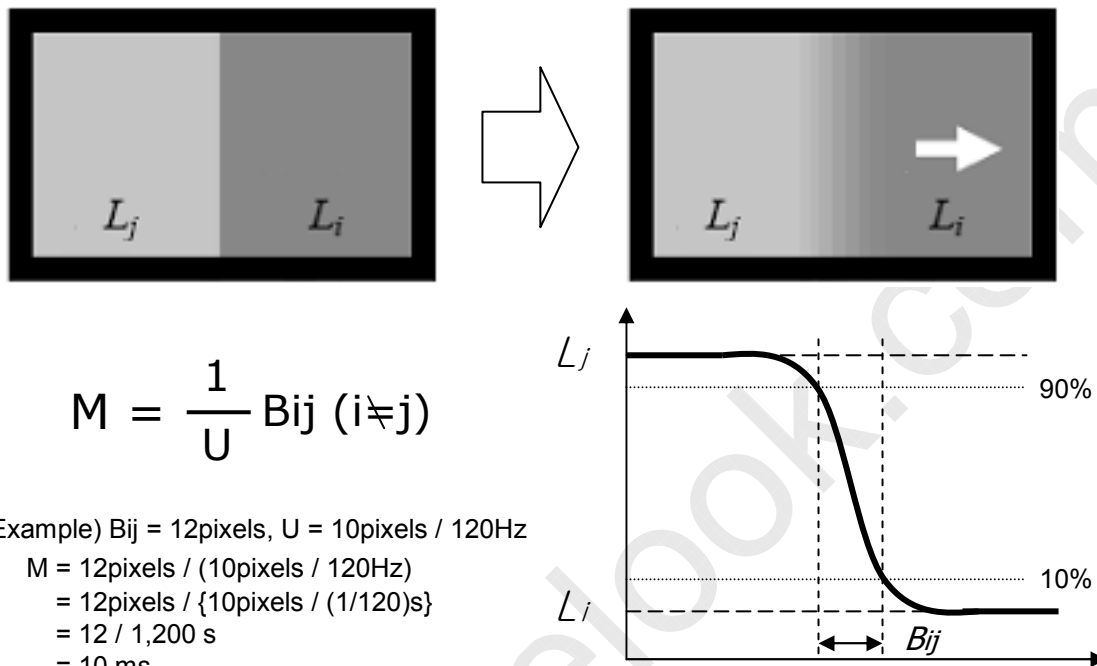

FIG. 4 MPRT
5. MPRT is defined as the 10% to 90% blur-edge width Bij(pixels) and scroll speed U(pixels/frame) at the moving picture. For more information, see FIG 4